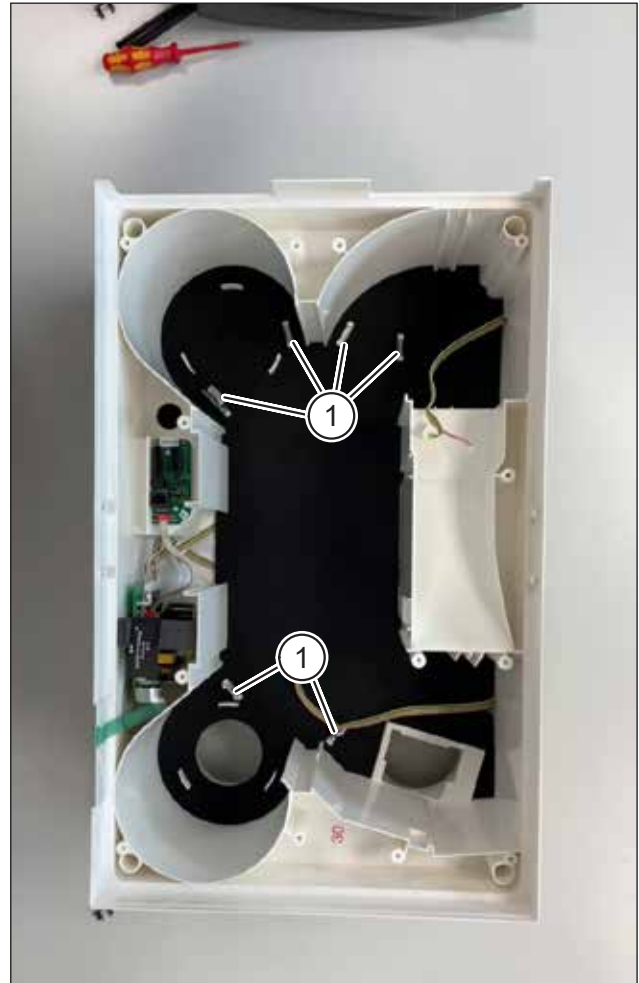

Fig. 6: Remove the sensors
- ▶ Remove the sensors (item 1 in Fig. 6) from the holders.